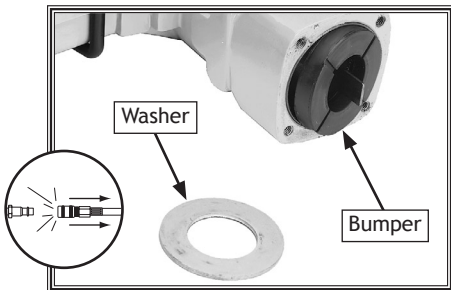

Figure 7. Washer and rubber bumper.
- Carefully slide the base from the nailer body, and remove the large base washer and rubber bumper (see Figure 7).